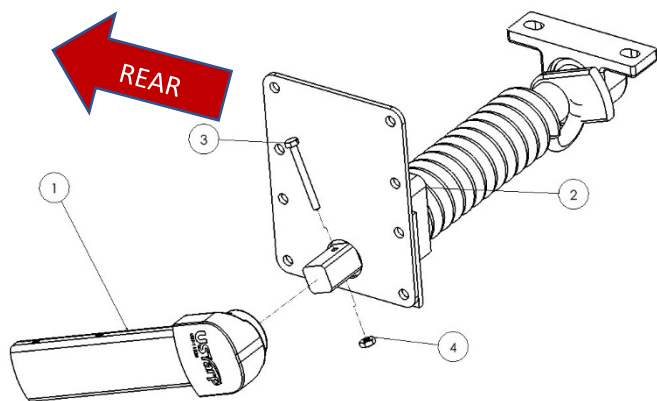

Figure 3.7
Mount the pivot casting (1) to the spring assembly (2) such that the pivot casting points toward the rear of the dump box and is angled slightly down. Attach the pivot casting using the supplied 1/4" x 2-1/2" hex bolt (3) and hex nut (4). (Figure 3.7)